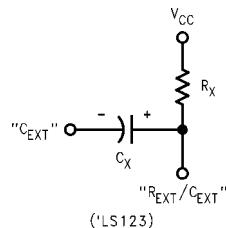

FIGURE 1.
2. When an electrolytic capacitor is used for C_X a switching diode is often required for standard TTL one-shots to prevent high inverse leakage current. This switching diode is not needed for the DM74LS123 one-shot and should not be used. In general the use of the switching diode is not recommended with retriggerable operation. Furthermore, if a polarized timing capacitor is used on the DM74LS123 the negative terminal of the capacitor should be connected to the "C_{EXT}" pin of the device (Figure 1).